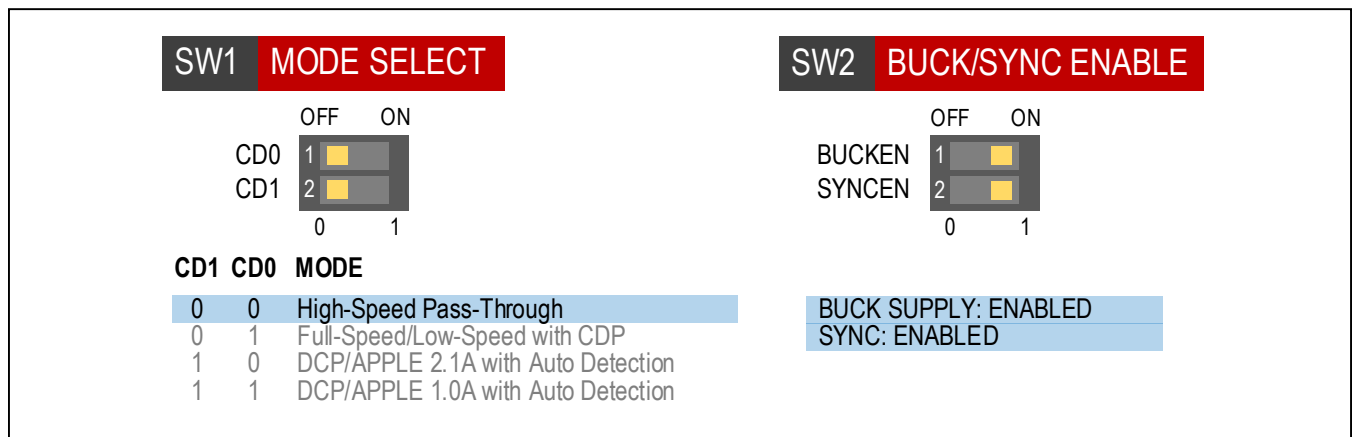

Figure 5. DIP Switch Selections for Buck Forced PWM Mode
- 1) Configure SW1 and SW2 as depicted in Figure 5.